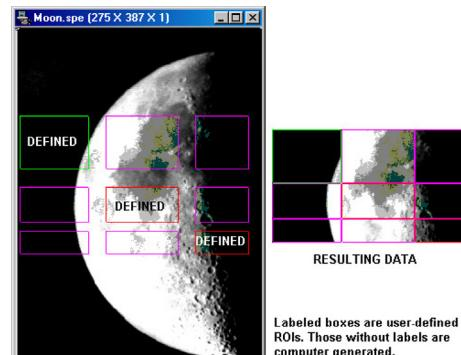

Figure 174. WinX/32 Side-Effect ROIs
**Note:** LightField version 3.0 SPE files are more complex than WinX/32 version 2.x SPE files. The LightField converter allows you to view the data in LightField. File information, however, will be limited and multiple ROIs will be displayed using the WinX/32 side-effect ROIs (*see Figure 174*.). Converted data can be exported but it cannot be used in post-processes.